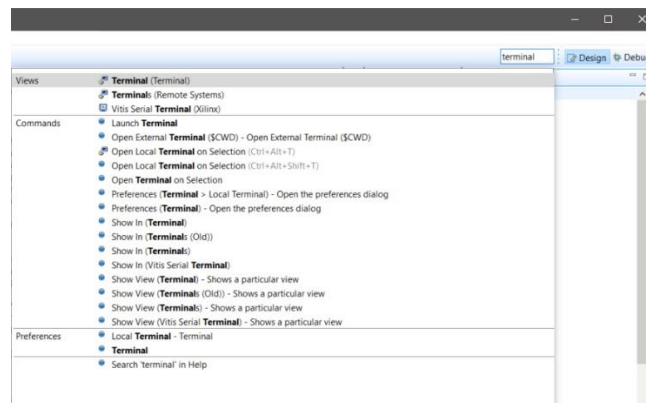

Figure 25
1. To open the **Vitis Serial Terminal** click on **Quick Access** near the top right corner of the Vitis workspace and type **terminal** (Figure 25)